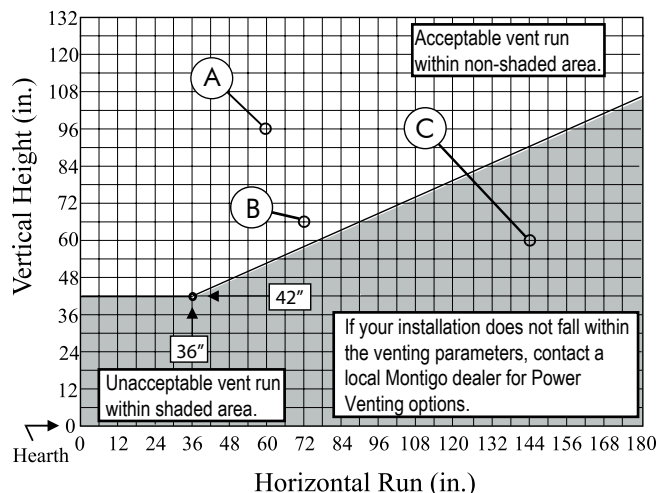

Figure 12. L38DF-ST\* Top Vent Venting Graph for wall mounted terminations.
- Once the proposed venting layout has been determined refer to Figure 12 or 13 to ensure the layout is acceptable.
- Venting runs must fall within the limits set by the venting graph, see Figure 12.
Measure the vertical height from the fireplace hearth to the centre of the termination and the horizontal run from the fireplace flue collar to the wall flange of the termination. Plot on the Venting Graph Figure 12 with an 'X'.